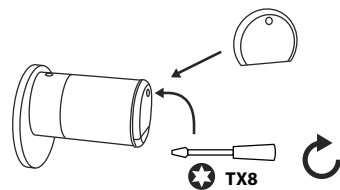

Fig. 4
- Replace the front cover and screw it on tightly (Fig. 4).